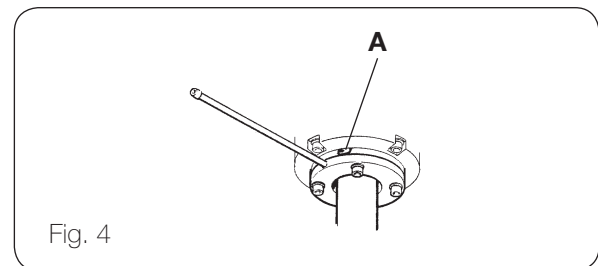

Fig. 4
- Grease should be pumped in so that it is forced out through the overflow hole on the bearing housing. Fig.4 pos.A.